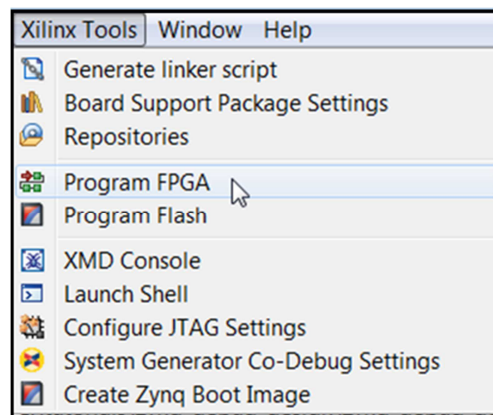

Figure 48: Program FPGA
1. Download the bitstream into the FPGA by **selecting** “Xilinx Tools > Program FPGA” (FIGURE 48).